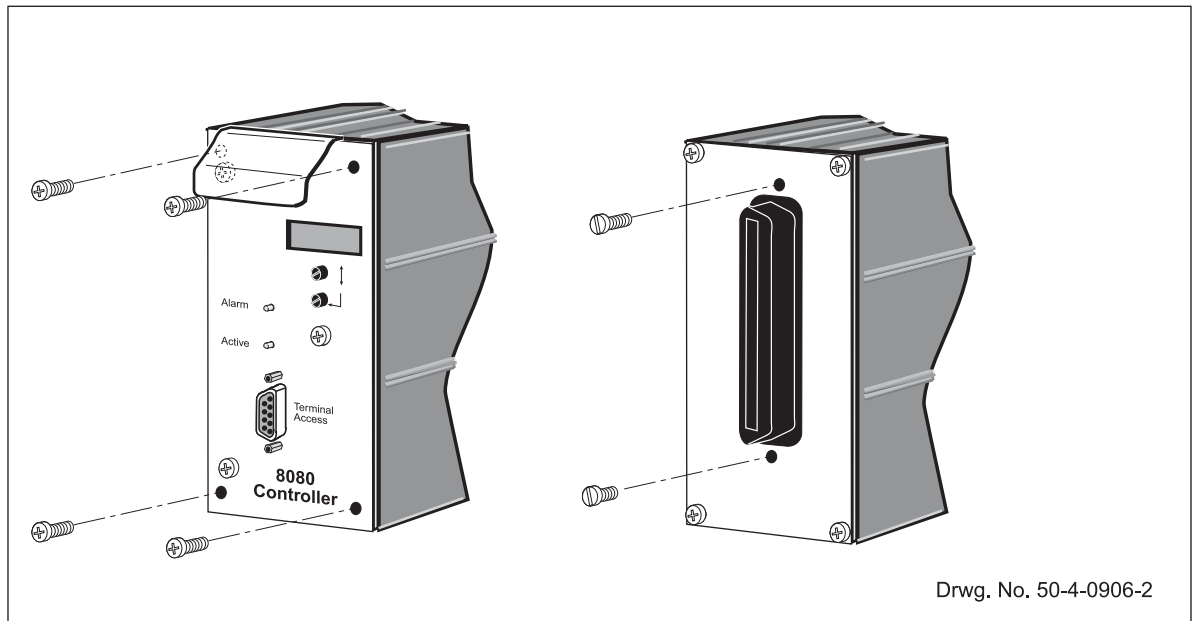

Figure 4.3: Module Face and Rear Plate Screws
3. On the controller module face plate, undo and save each of the four screws on the corners (see Figure 4.3)
4. In the controller module rear plate, undo and save the two screws that hold the connector (see Figure 4.3)
2. Insert a screw into each hole in the PCB connector and tighten (see Figure 4.3).
3. Insert and tighten a screw through each of the holes in the corners of the face plate (see Figure 4.3).